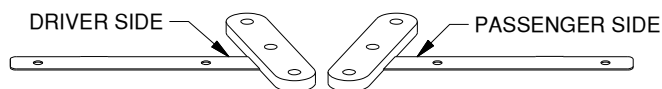
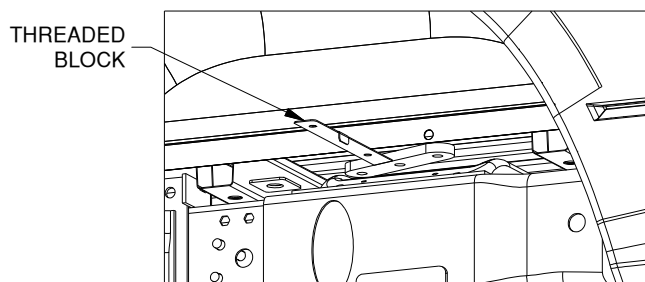

Figure B2: Threaded Blocks
Figure B3: Looking at driver side wheel well.
2. **Install threaded blocks.** Identify the driver and passenger side threaded blocks by comparing the parts to figure B2. Place the threaded blocks between the frame cross member and the bed on their respective sides, see figure B3. Use the handle welded to the blocks to guide them into place. Once the blocks are positioned, lower the handle so that the tab on the bottom side of the handle fits into the hole as shown in figure B4. This will help hold the blocks into position while the center section is installed. Make sure that the three threaded holes in the blocks are directly over the holes in the frame.